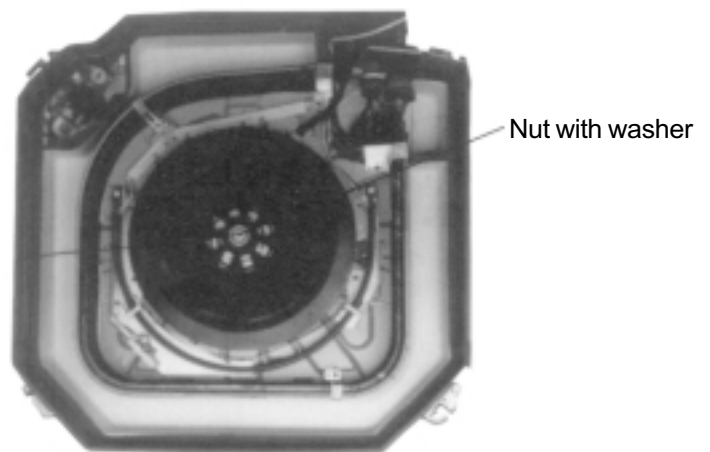

Figure 12
- ⑥ Disassemble the fan
- Unscrew the nut with washer using a screwdriver. Lift the fan upwards and remove it as shown in figure 12